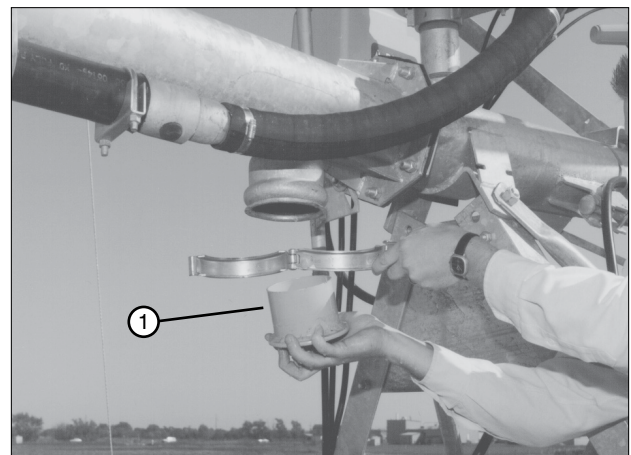

Figure 39-2 1. Sand Trap
3. Remove and clean the sand trap at the last regular drive unit. See Figure 39-2.